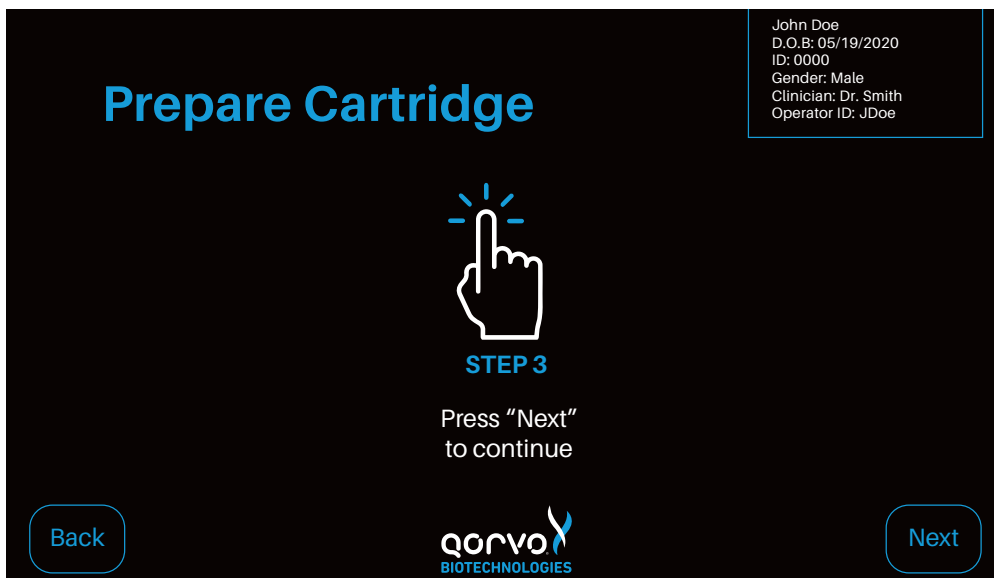

Figure 27
7. Ensure all sample has been absorbed into the sample port and the sample has reached the “minimum sample fill” line. After the cartridge has been prepared, press “Next” (Figure 27).